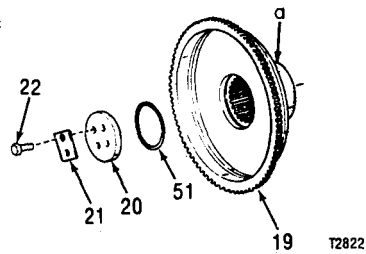

Figure 386.1. Addendum to Figure 386 (fold-out 15)
- 51- Add Shim (see fig. 386.1)